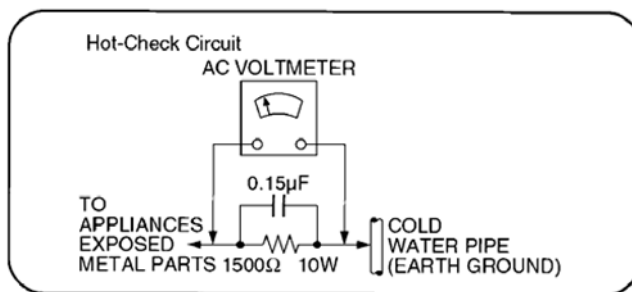

Figure 1
### 1.1.2. Leakage Current Hot Check (See Figure 1)
2. Connect a  $1.5\text{k}\Omega$ , 10 watts resistor, in parallel with a  $0.15\mu\text{F}$  capacitor, between each exposed metallic part on the set and a good earth ground such as a water pipe, as shown in Figure 1.